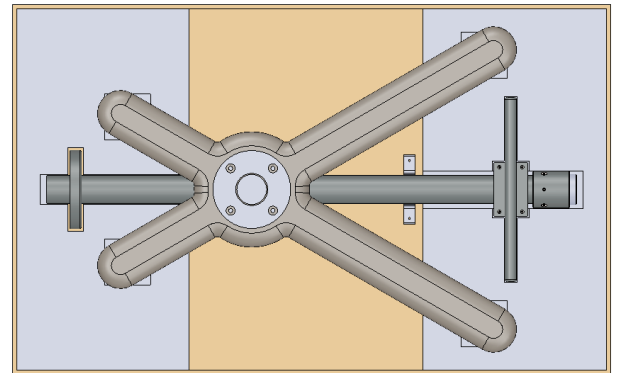
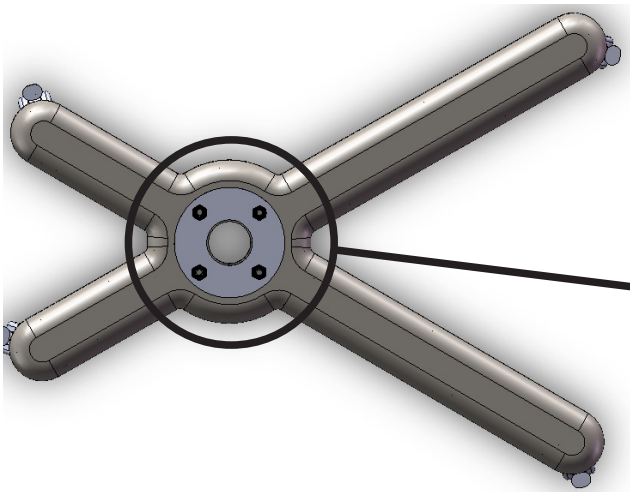

Figure 1
Figure 2
- Open the bigger box and remove the top level foams. Lift the base casting holding at corners and place it on the floor as shown in Figure 1 and Figure 2. Lock the wheels.
- Remove 4 M10X30 Hex Socket Head Cap Screws along with M10 Spring washers fixed on the base casting using 8MM Allen key as shown in Figure 2 and keep them aside. Align the rubber gasket such that all the four holes are accessible.